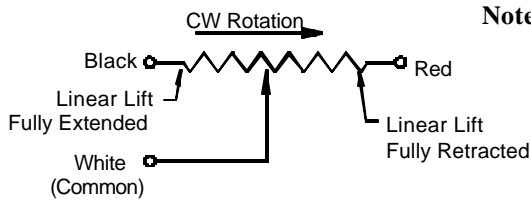

Figure 6. Connection and Operation
**Figure 6** shows the schematic of the Potentiometer and which color lines are associated with rotation, direction, and position of the Bronze Nut.